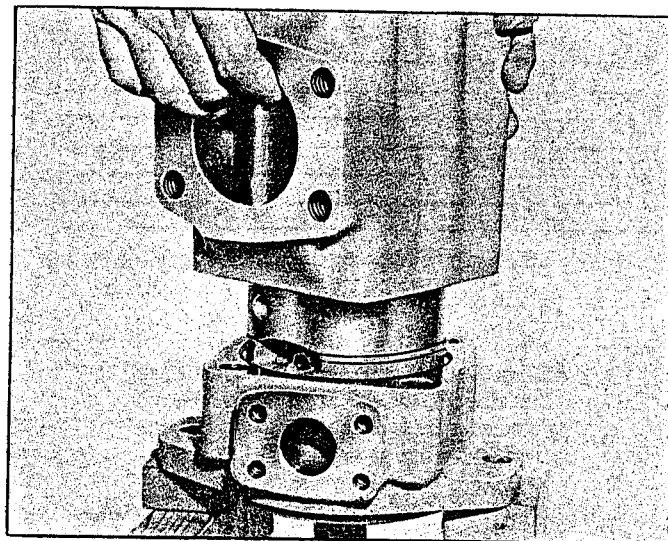

Figure 13. Removing Inlet Housing from Outlet Body
3. Remove four screws (5) from the inlet housing (6). Separate inlet housing (6) and outlet body (15). Refer to Figure 13. This exposes shaft end cartridge (7). Discard square cut seal (18) and "O" ring (19). Refer to Figure 10.
4. Rotate shaft to loosen cartridge (7), then remove the cartridge from outlet body (15). Set aside for disassembly during step B.8.
5. Remove spirolox ring (8). Slide shaft (9) and bearing (12) from outlet body (15).
6. If bearing (12) is defective, remove retaining ring (11) and press bearing from the shaft with an arbor press. (Apply force to inner race of bearing).